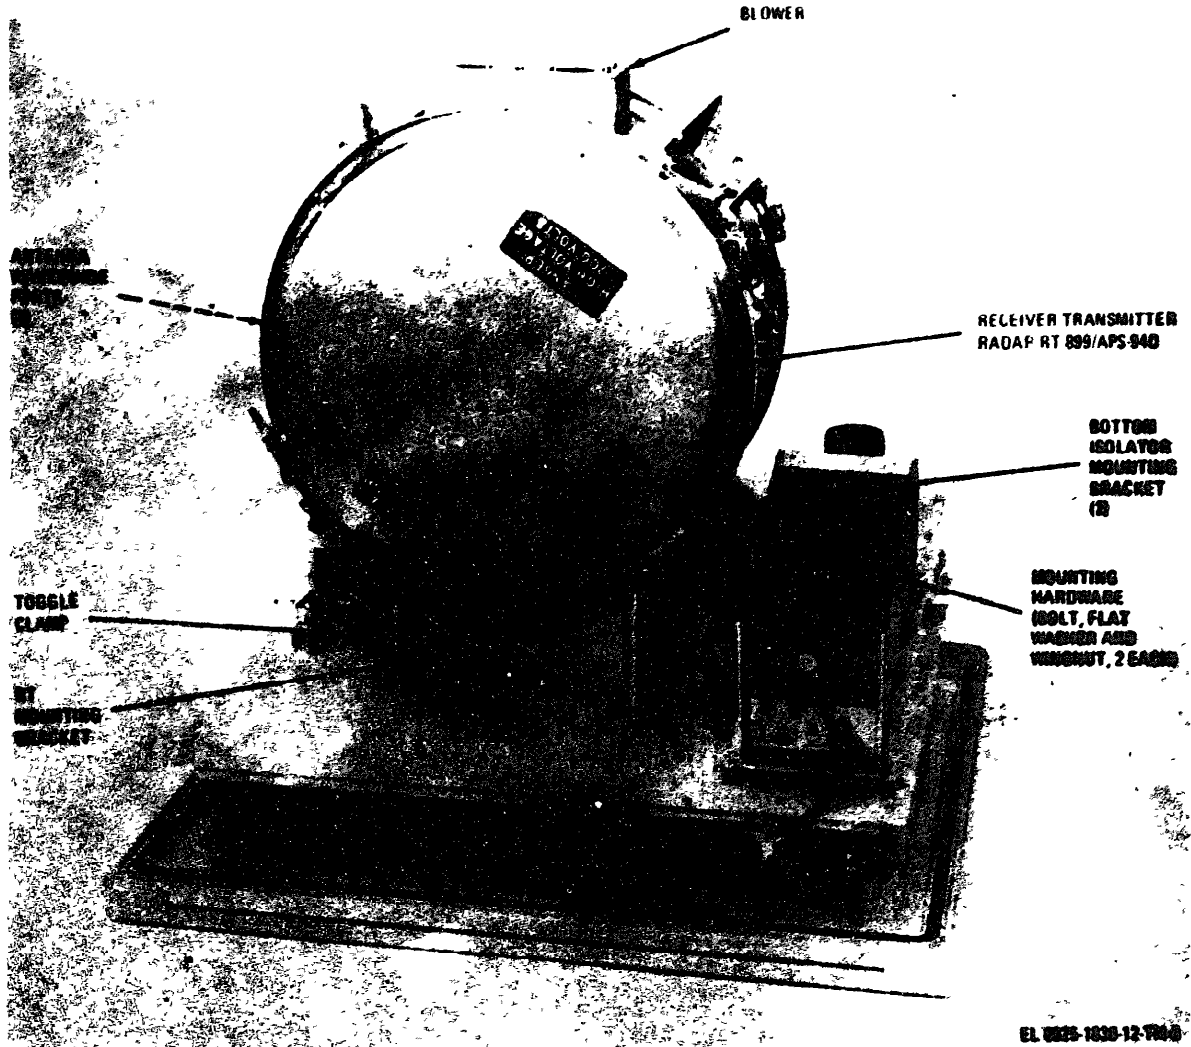

Figure 2-11. *Mounting Receiver-Transmitter, Radar RT-889/APS-94D on Interface Test, Radio Frequency TS-2975/APS-94D.*
2 - 8 . Mounting Receiver-Transmitter, Radar RT-899/ASP-94D on interface Test, Radio Frequency TS-2975/APS-94D. (fig 2-11)
c. Engage the toggle clamp (fig. 2-11) to hold the mounting plate of 2A1 down on the baseplate of the RF test set.